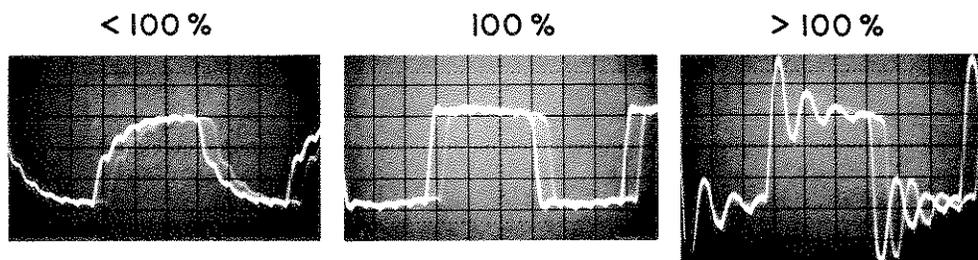
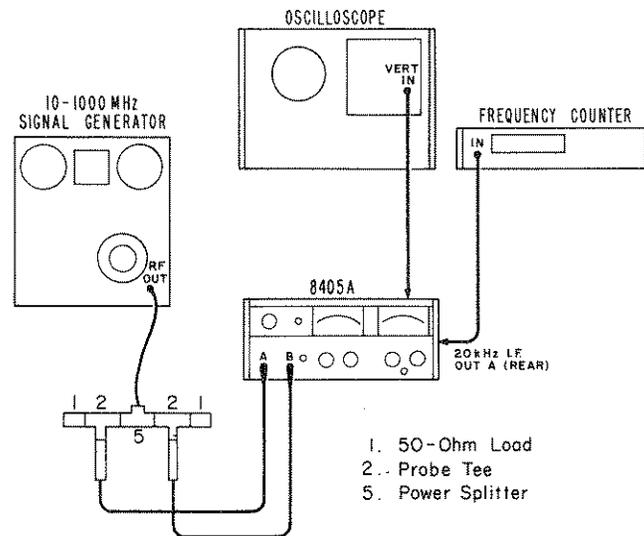

Figure 2G. Typical Sampling Efficiency Waveforms
Figure 2H. Setup for Search Speed Adjustment
- f. Adjust Channel A sampler bias control A3R20 for 100% sampling efficiency. Sampling efficiency is 100% when the top of the waveform is nearly flat. See typical waveforms in Figure 2G.
- g. Adjust Channel B sampler bias control A4R20 for 100% sampling efficiency. See typical waveforms in Figure 2G.
- (1) Connect the 8405A Channel A probe to the Oscilloscope vertical input with a probe-to-BNC adapter.
- (2) Adjust Symmetry control A3R15 to minimize the sampling signal. Minimum signal should not exceed 5 mV p-p.
- (3) Repeat steps 1 and 2 for Channel B probe adjusting Symmetry Control A4R15.
- a. Connect test equipment as shown in Figure 2H.